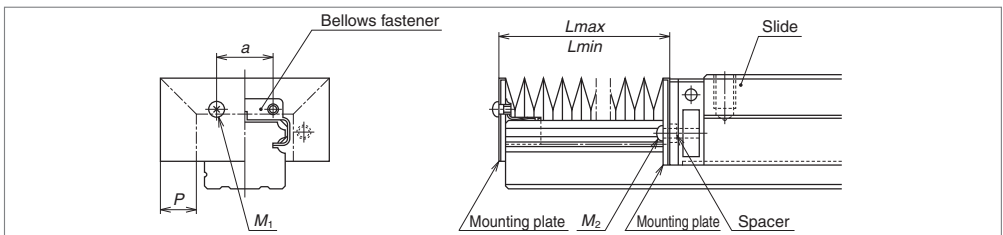

Fig. 6.7
① Installation of bellows SH, SS, LH and LS Series
* Installation in the ball slide (Fig. 6.7)
- Remove two machine screws (M_2) which secure the end seals to the end of the slide (Fig. 6.7). For LS15, hold the end cap by hand. Otherwise, the end cap is detached from the ball slide, and the balls inside may spill out.
- NSK has bellows exclusively for LH (SH), LS (SS), LA and LW Series. They have a middle bellows and a bellows at both ends. For LH Series, there are low and high type bellows which are in compliance with their slide types.
- To install bellows for SH, SS, LH and LS Series, lightly knock a fastener exclusively for bellows to the end of the rail (Fig. 6.7). Then secure the mounting plate at the end of the bellows through the tap hole of the fastener.